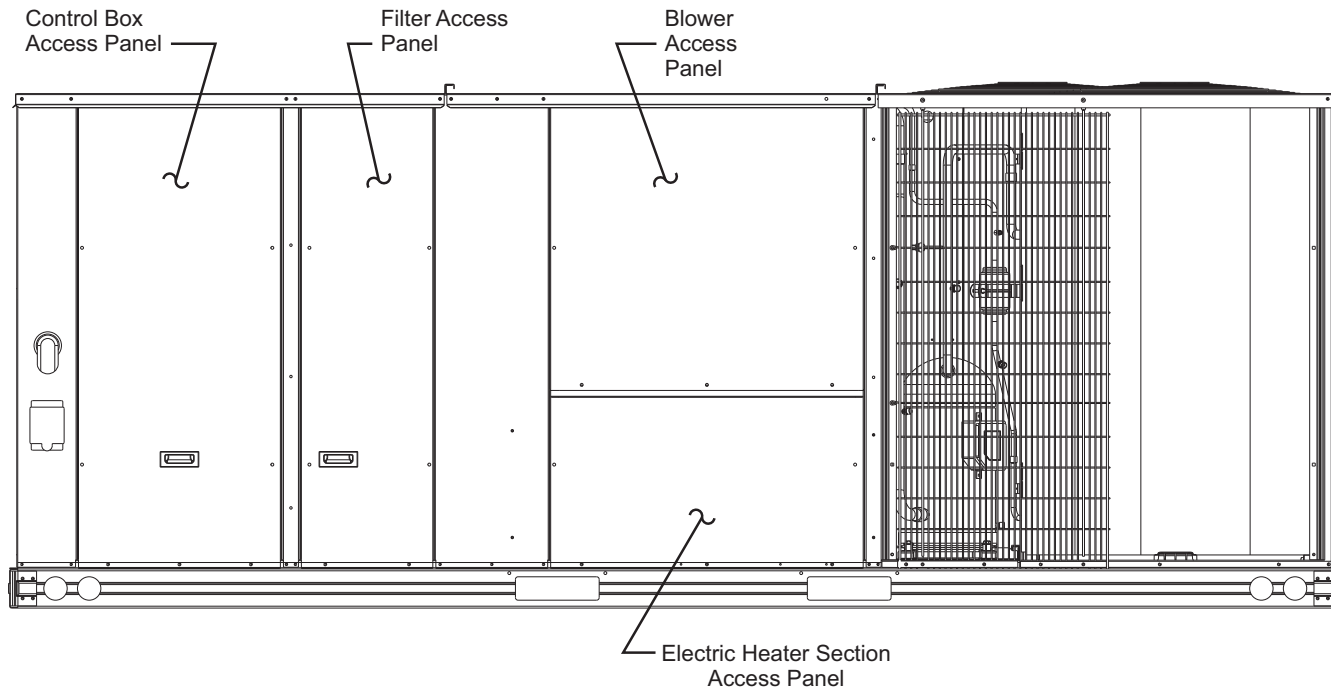

Fig. 39 — Typical Unit – Access Panel Locations
2. Remove electric heater section access panel, control box access panel, filter access panel, and blower access panel from base rooftop unit. (See Fig. 39.)